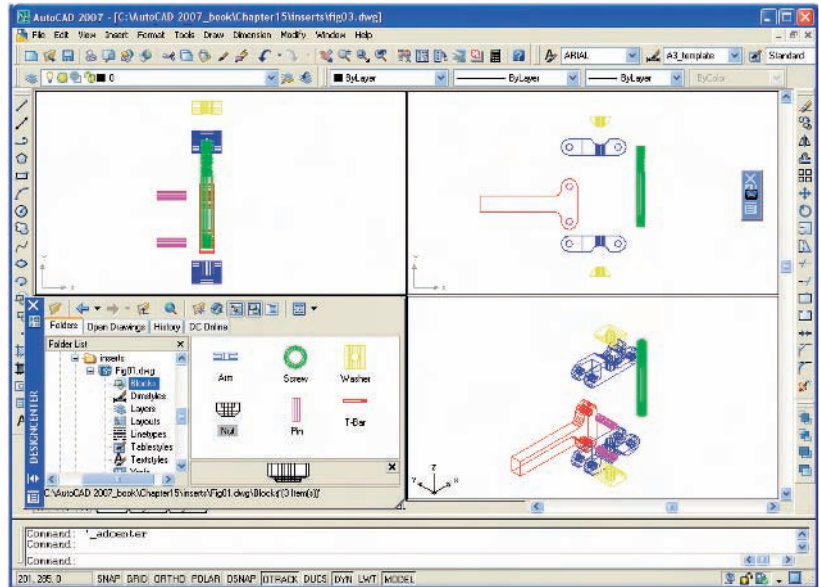

Fig. 15.3 First example – inserting 3D blocks
6. Drag and drop the blocks one by one into one of the viewports on screen Fig. 15.3 shows the **Nut** block ready to be dragged into position in the **Front** viewport. As the blocks are dropped on screen, they will need moving into their correct positions in relation to other parts of the assembly by using the **Move** tool from the **Modify** toolbar in suitable viewports.